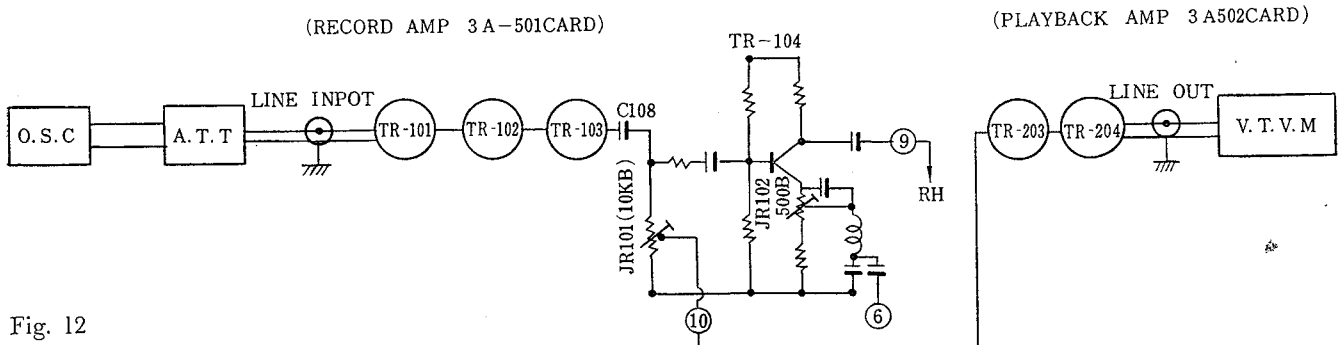

Fig. 12
- Supply 1,000 c/s sine wave of the Audio Frequency Oscillator to the Line Input of the X-300 through the Attenuator (ATT) as shown in Fig. 12.
- After this adjustment, shift the frequency of Audio Frequency Oscillator and adjust the resistor VR-102 (500 ohms (B) semi-fixed resistor) so that the Line Output Level in 1 k c/s is equal to that in 10 K c/s).